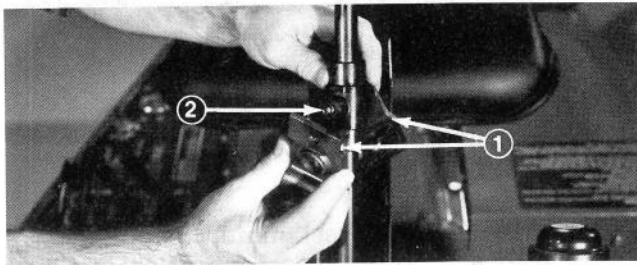

Figure 6
4. Add shims between bearing supports and steering column (Fig. 6).